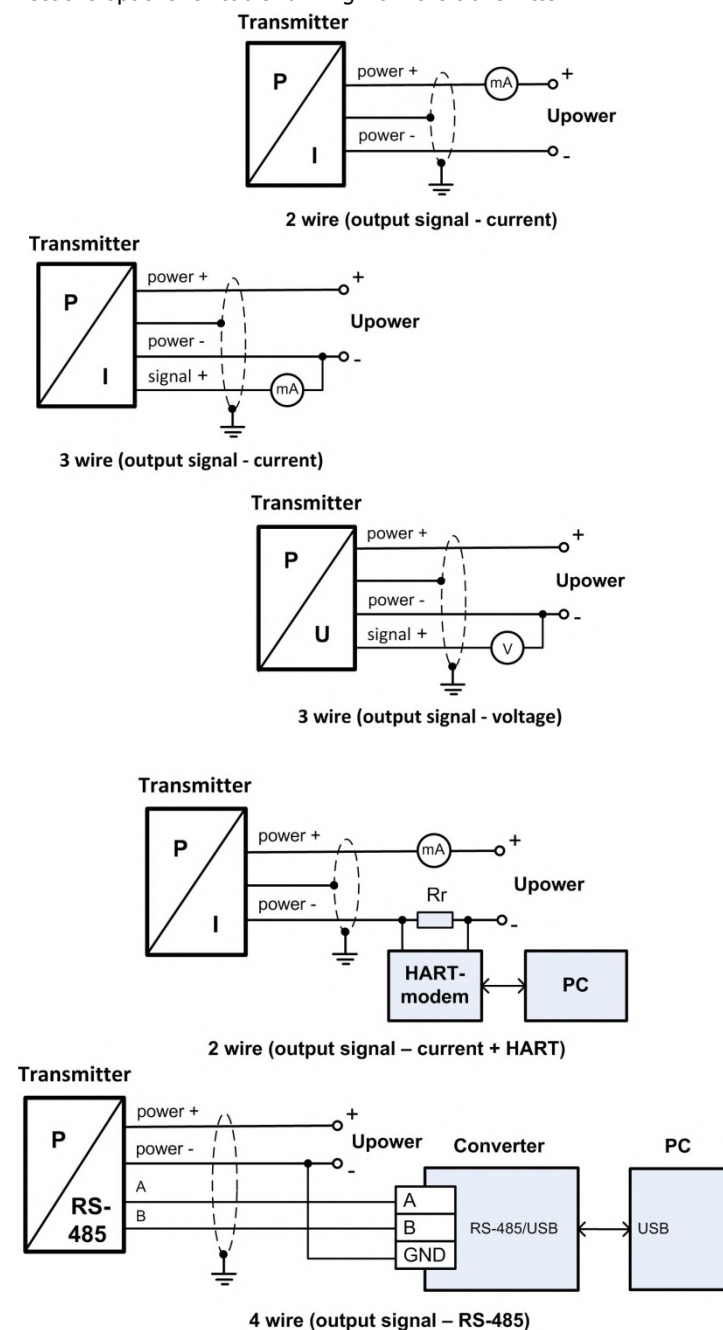

Figure 1 - Circuits connection diagrams
4.5 Connect transmitter's circuits as shown in Figure 1; see Table 3 for connections options for cable running from the transmitter.